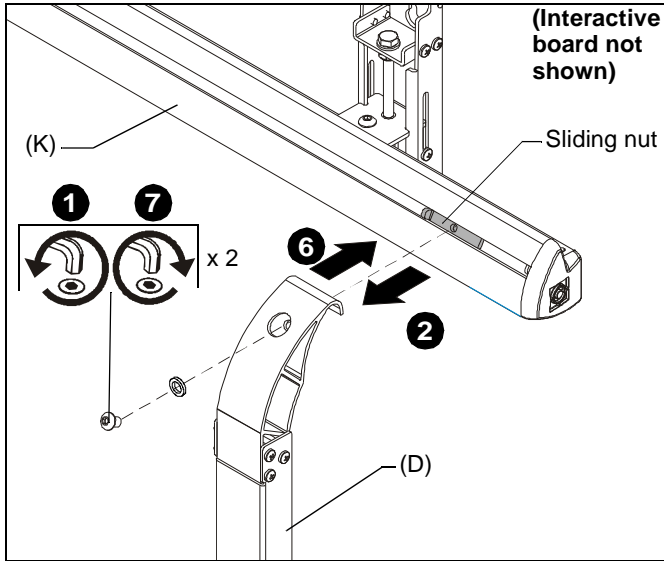

Figure 9
each upright assembly (D). (See Figure 9)
- Unhook whiteboard from wall assembly (K). (See Figure 9)
- Hook whiteboard with attached upright assemblies onto the wall assembly (K). (See Figure 9)
- Tighten button head cap screw with spacer (loosened in Step 1) at top of each upright assembly to fasten upright assemblies (D) into place. (See Figure 9)